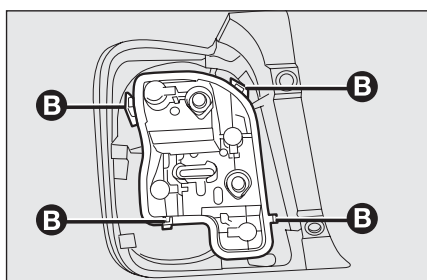

fig. 27
- extract the bulb holder from its seat releasing it from the locking clips **B**-fig. 27;